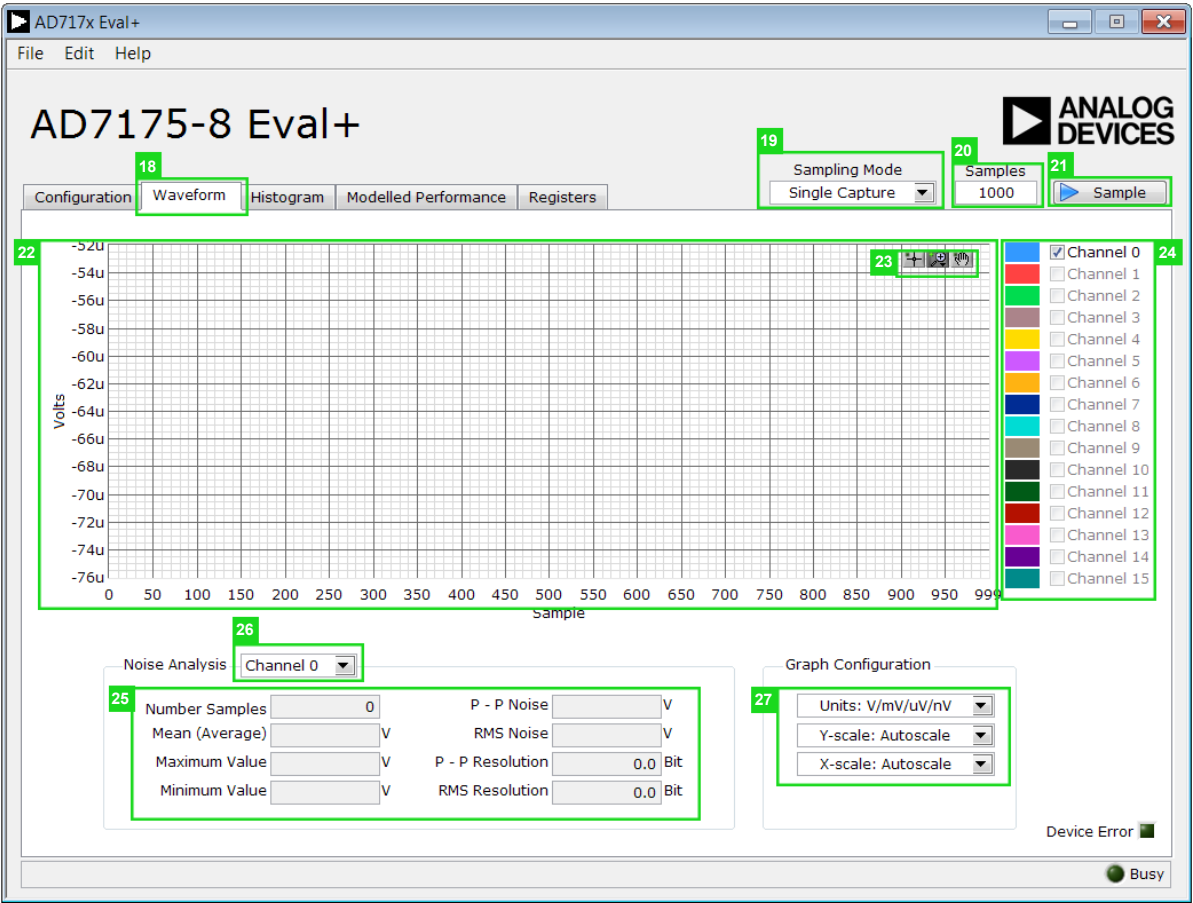

Figure 18. **Waveform** Tab of the **AD7175-8** Evaluation Software
Figure 18 shows the **Waveform** tab of the AD717x Eval+Software.
Click the **Sample** button to start gathering ADC results. Results appear in the waveform graph (22). See Figure 18.
The data waveform graph shows each successive sample of the ADC output. Zoom in on the data using the control toolbar (labeled 23 in Figure 18). Click the x-axis and y-axis to change the scales on the graph.